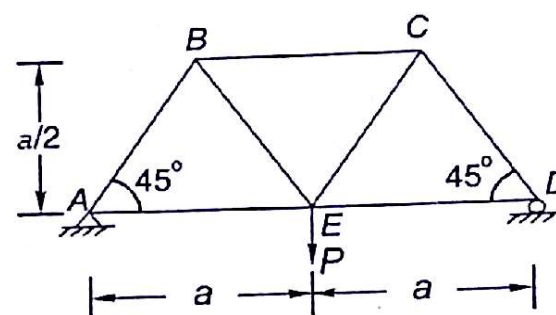

Fig. 9.34
9.3 A simple truss $ABCDE$, containing of 3 triangles is shown in Fig. 9.34. What is force in top member BC ?